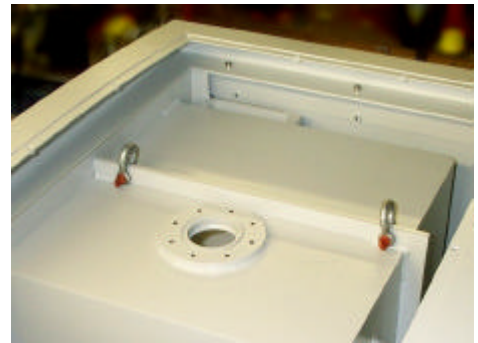

Fig. 4 Lifting Bolts in position.
- * If required, the complete unit may be lifted by using the two supplied D-bolts connected to the vacuum chamber as shown in Fig.4 under the top cover plate.